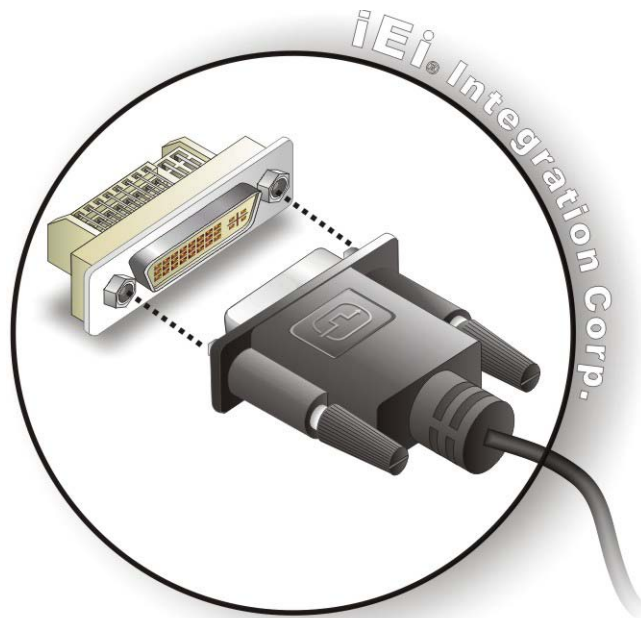

Figure 3-17: DVI Connector
Step 3: Insert the DVI connector. Once the connectors are properly aligned with the male connector, insert the male connector from the digital display device into the female connector on the TANK-801. See **Figure 3-17**.